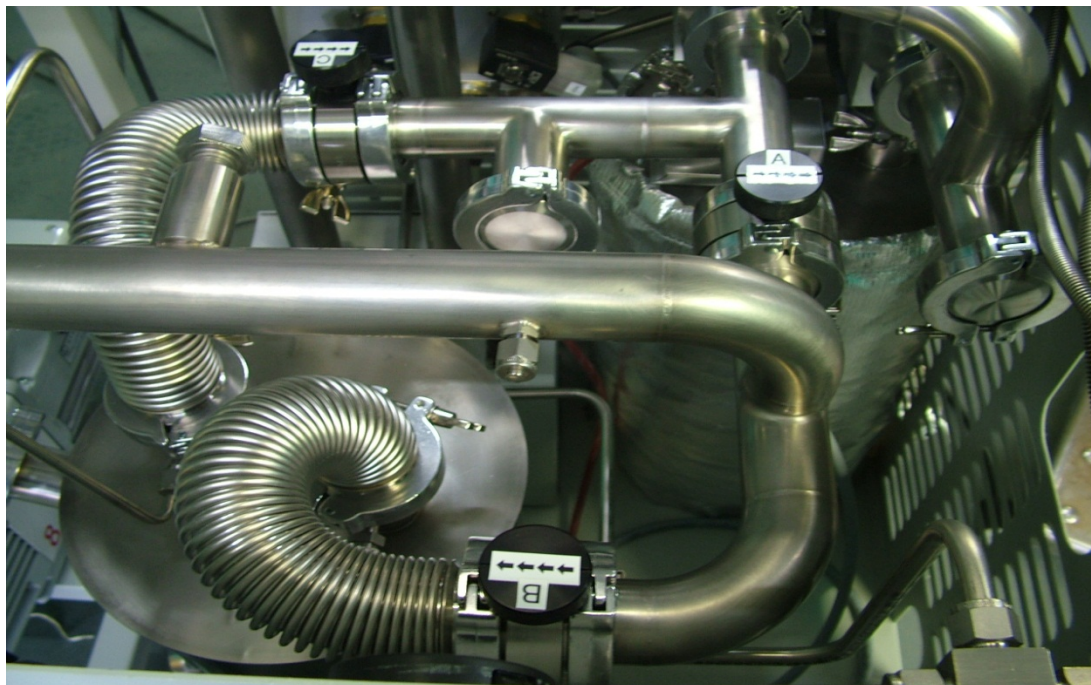

Figure 44 Gas purification module
- 2 Open the by-pass valve (labeled A in Figure 44 below). This is located in the Gas Purifier. The top must be removed to access valve